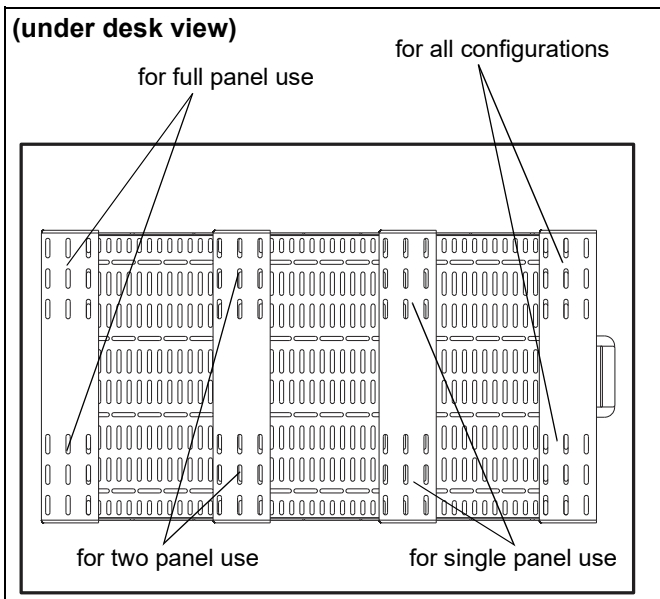

**Figure 1**
1. Determine if entire accessory desk plate (A) will be used or if should be separated.
2. (Optional) Separate extra section(s) of desk plate (A) if necessary. The plate can be broken down into thirds depending on space available and user preference. (See Figure 1)